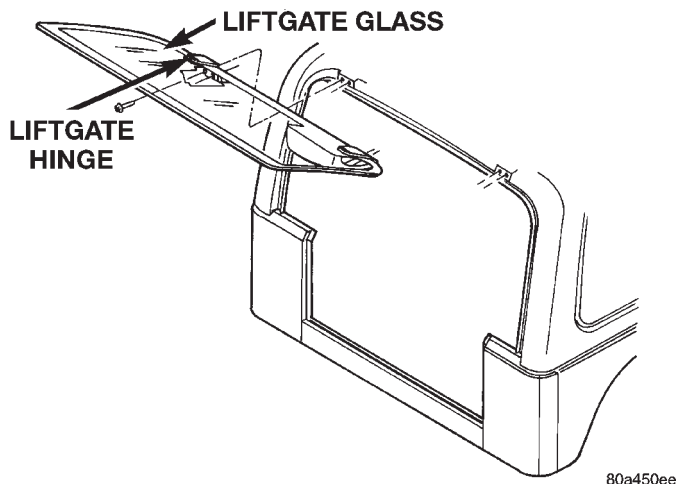

Fig. 77 Liftgate Hinge
- (1) Open tailgate.
- (2) Open and support liftgate glass.
- (3) Remove wiper motor cover (right hinge only).
- (4) Remove the nut attaching the liftgate hinge to the liftgate glass.
- (5) Mark the position of the hinge in the top and remove the bolts attaching the hinge to the top (Fig. 77).